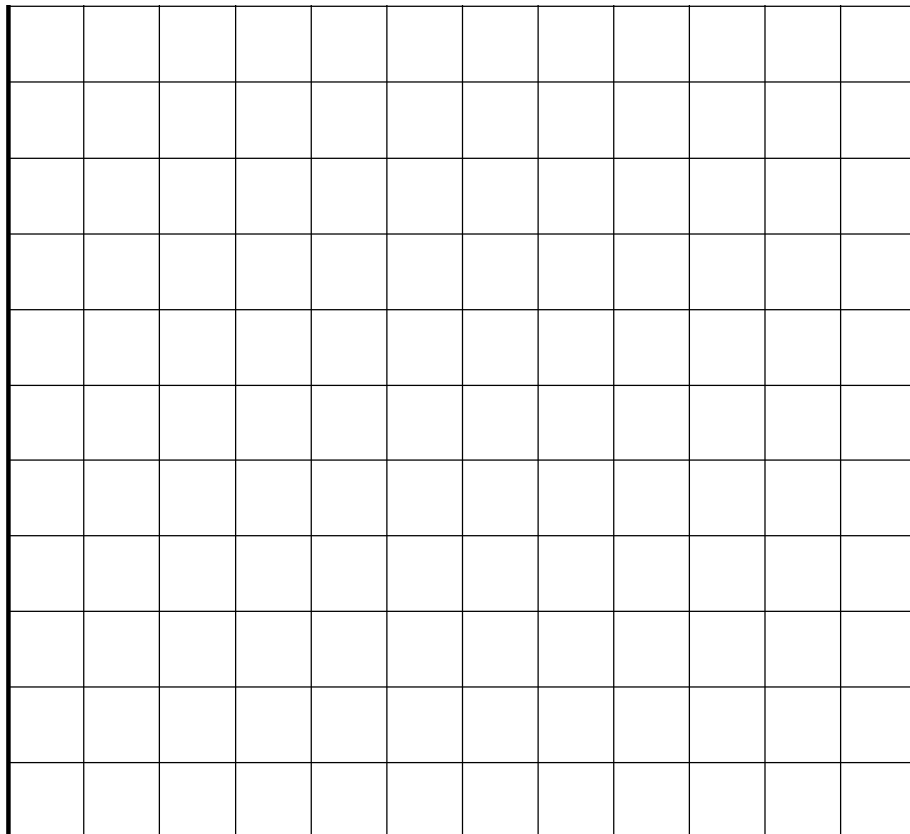

Fig. 3.3.2.3: Characteristics  $I = f(U)$  and  $R = f(U)$  for the NTC resistor at room temperature
- Also, plot the values of U and R in the chart (Fig. 3.3.2.3). The y-axis of the coordinates system is also used as a resistance scale.
- Break the circuit in Fig. 3.3.2.1 by removing a bridging connection. Set the voltage at the output of the source to 20 V. Select a suitable current range on your multimeter corresponding to the expected current flow.